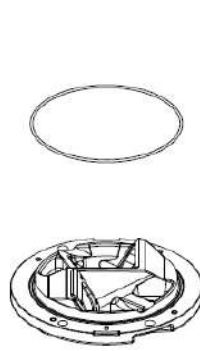

Figure 5-19
- Replace the light body gasket: Put the gasket into the seal groove of the upper cover in place to ensure that the gasket and seal groove are clean (Figure 5-19).